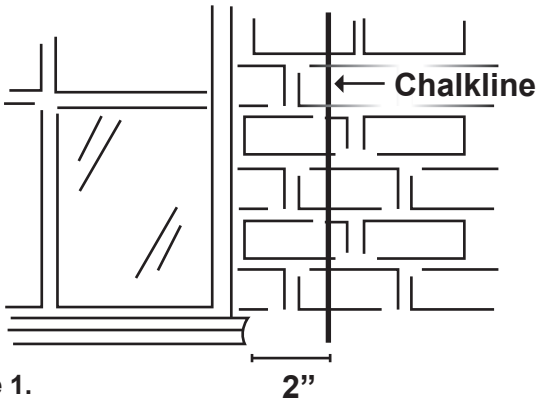

Figure 1.
- Snap chalk line 2" away from any edging. (Figure 1) **Note:** If **CABLEREADY** molding is installed too close to the edging, it may cause re-entering the system to be difficult.